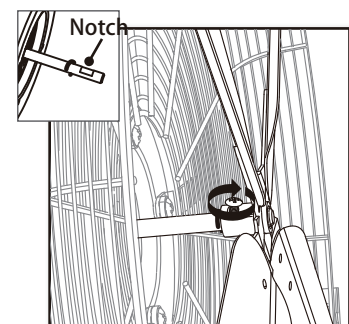

Figure 11
13. Tighten the screw on the blade assembly to secure it to the motor shaft. Make sure that the end of the screw is positioned within the notch on the shaft. Figure 11.